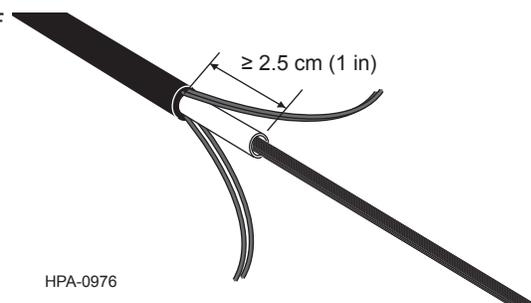

Figure 13
- Repeat these steps until the desired length of central tube is removed, leaving at least 2.5 cm (1 in) of exposed central tube beyond the end of the sheath (Figure 13). *The length of exposed central tube may vary depending on the hardware being used.*